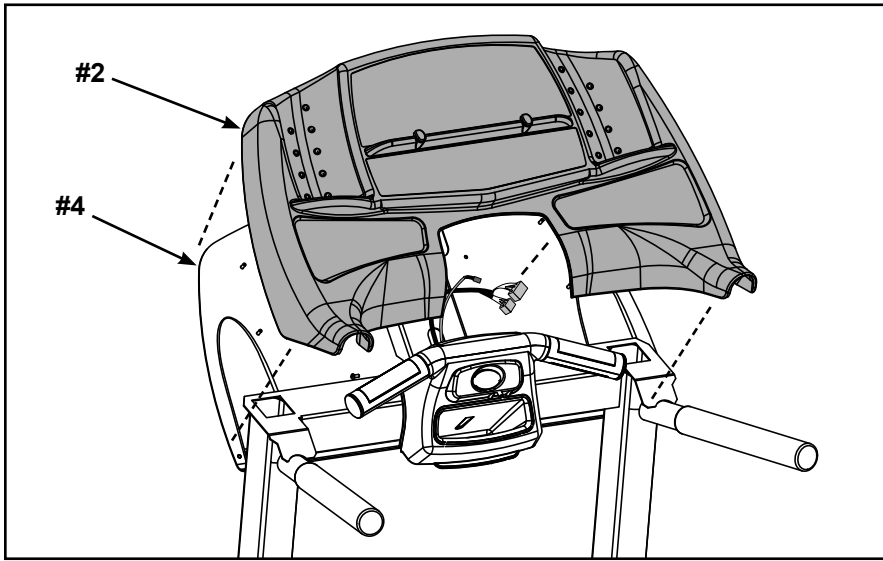

Figure 7
- B. Place the console assembly (#2) in position on the console back (#4). See Figure 7.